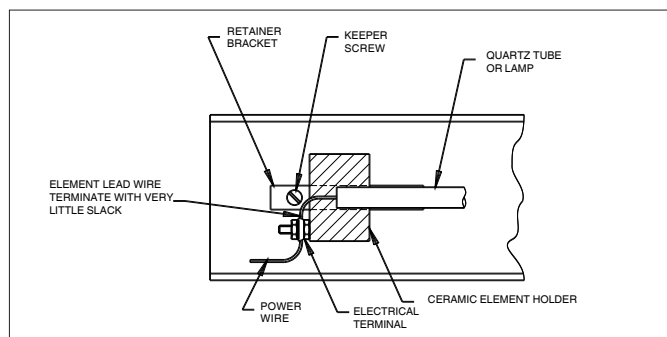

Figure 2 – Typical wiring attachment of quartz heater
12. Follow this procedure and Figure 2, page 4 when installing the tube or lamp: